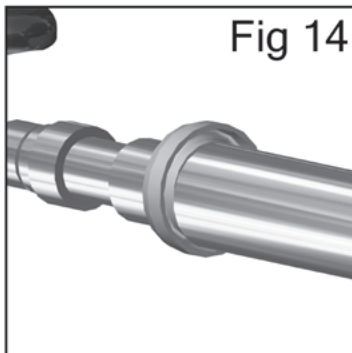

Fig 14
12. Fit a new valve seat (19) to service tool (44). Groove must face outwards. (See fig 14).